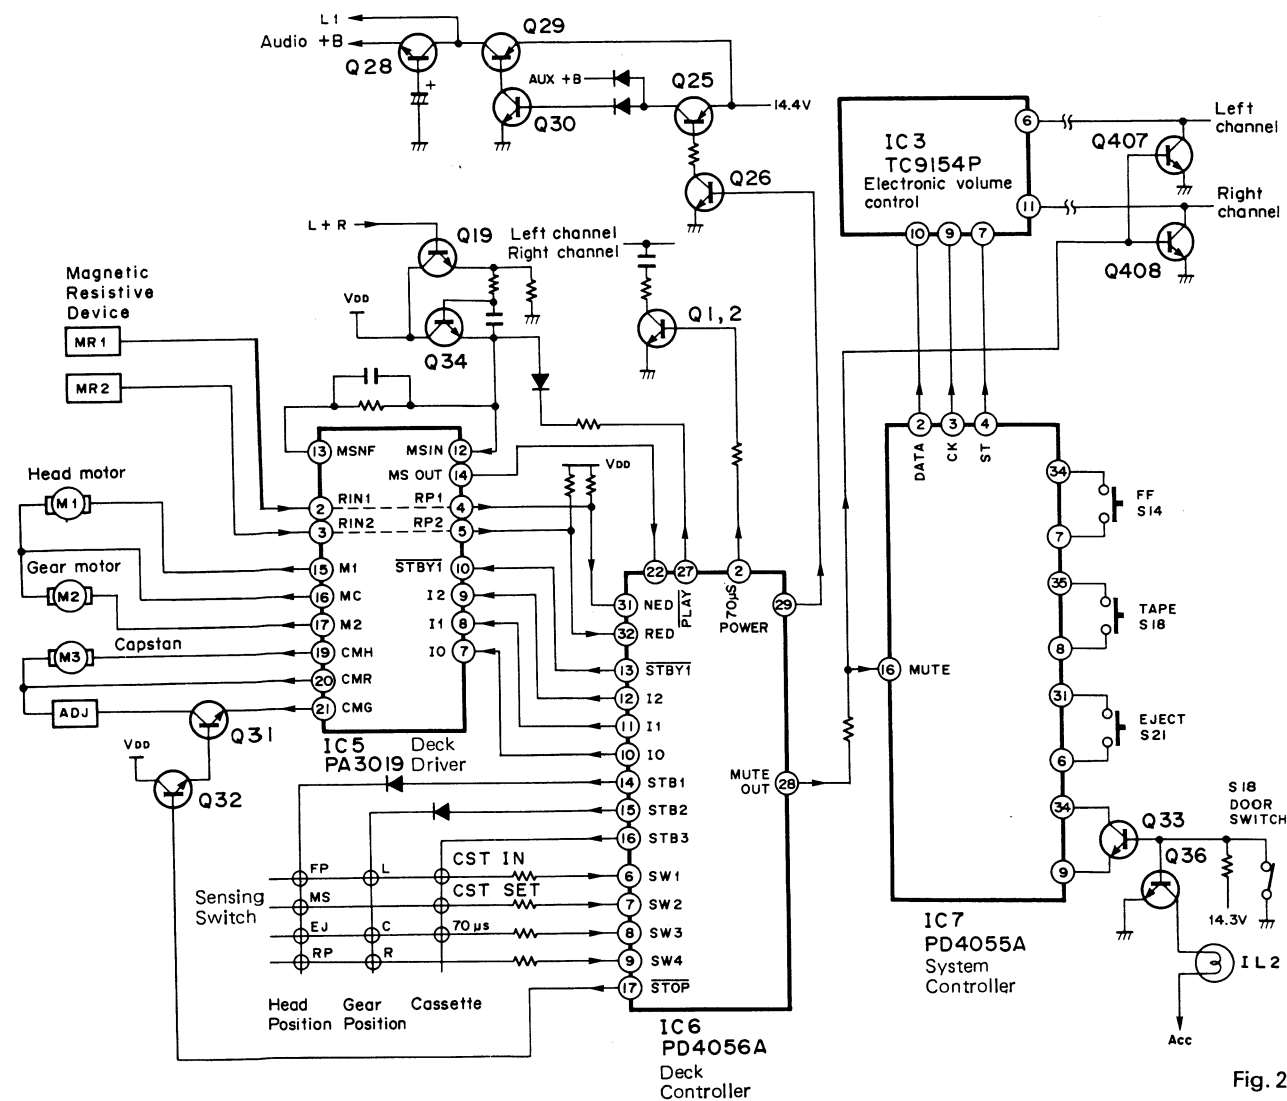

Fig. 28
• Explanation of operation (Refer to Fig. 28)